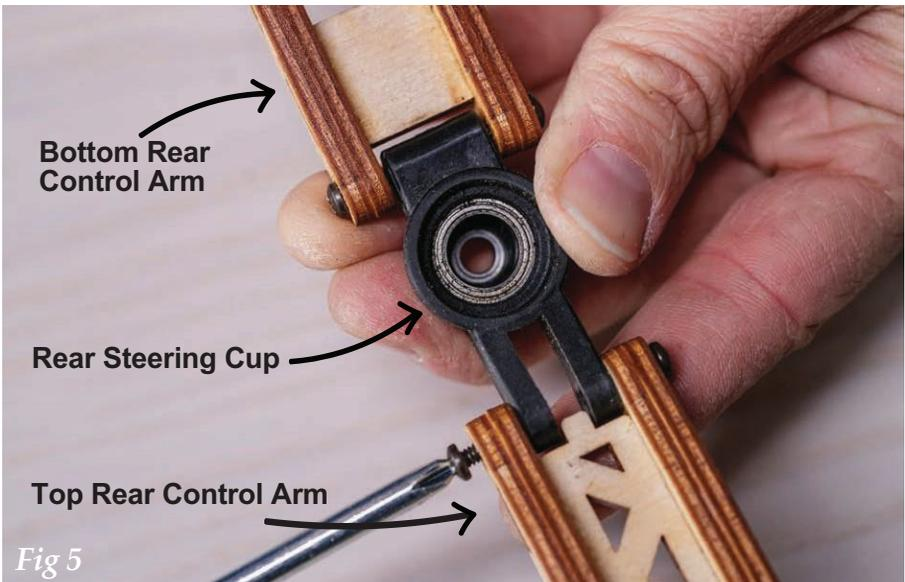

Fig 5
- 4 Repeat the same steps to attach the **Rear Control Arms** to the **Rear Steering Cups** using the same **3 x 10 mm Screws** (Fig 5). Repeat process for the second set.